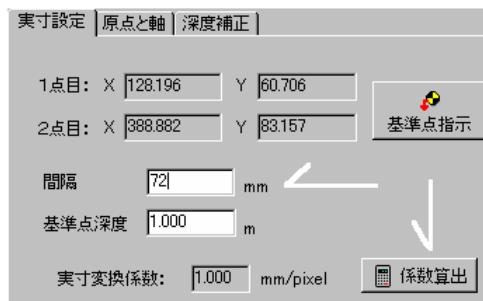

Figure 42 Screen upon Completion of Calibration
- Click “Calculate Coefficient” to calculate the conversion coefficient for the actual dimensions. In this example, the conversion coefficient for the actual dimensions is approximately 0.275. (Figure 42)